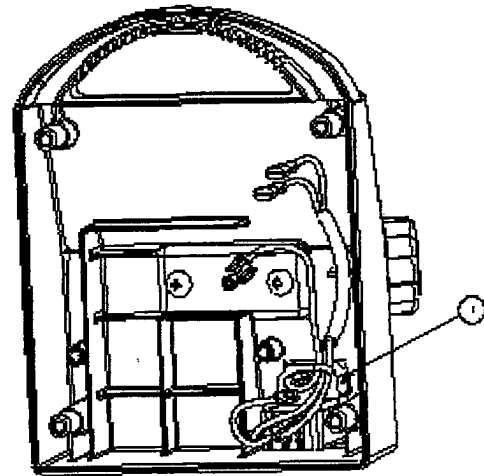

Figure 6.12a. AC Receptacle Assembly Replacement
2. Refer to Figure 6-12a and depress AC receptacle retaining lugs (1) to release the AC receptacle and remove from the rear housing assembly.